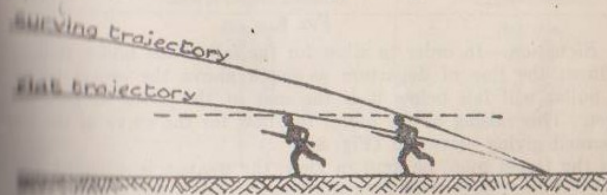

FIG. 6.
- (c) The flatter the trajectory (Fig. 6).